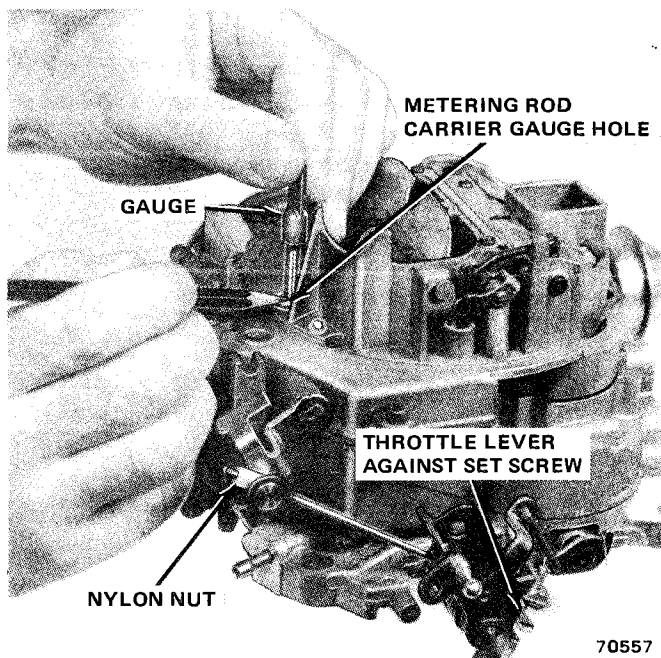

Fig. 1J-114 Gauging Metering Rod Carrier Stroke
(3) With throttle at idle setting established previously, insert any suitable tool into gauge hole until it rests on vacuum piston adjusting screw.
(4) Scribe mark on gauge flush with top of gauge hole boss (fig. 1J-114).
(5) Move throttle to wide-open position. Gauge will be pushed up by vacuum piston. Make second mark on gauge flush with top of gauge hole boss.
(6) Return throttle to idle position and remove gauge. Measure distance between scribe marks. Refer to Specification for correct metering rod carrier stroke.